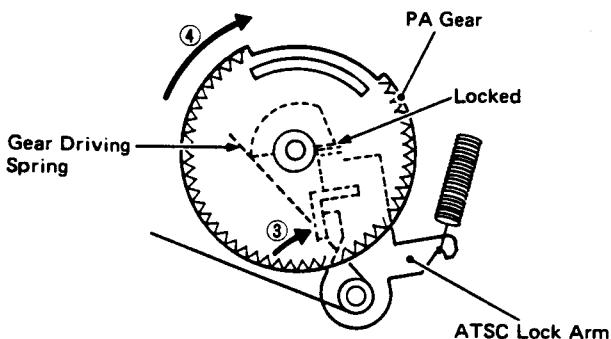

Fig. 13
- (6) REV reel stops as soon as tape slackening is eliminated (the gear of reel is driven by REW gear).
- (7) As soon as the reel stops, the operation of above step (5) sends the reel arm toward the left. Consequently, the protrusion of sensing lever moves along the orbit of dotted line, causing the sensing lever to get pushed by cam and move along arrow ②.
- (8) Sensing lever turns the ATSC lock arm along the direction of arrow ③.
- (9) In ejected state, PA gear remains locked by ATSC lock arm, as shown in Fig. 13. The force along arrow ③ caused by the operation of above step (8), releases the lock if PA gear, whereupon the PA gear is made to rotate slightly along arrow ④ by the gear driving spring. As a result, the PA gear engages with sensing cam gear, and proceeds to turn through 1 more rotation. The cam of PA gear then causes the HD drawing arm and key-off lock arm to move along arrow ⑤. The HD drawing arm pushes against a lever, and a spring attached to the lever causes the head base to shift along arrow ⑥